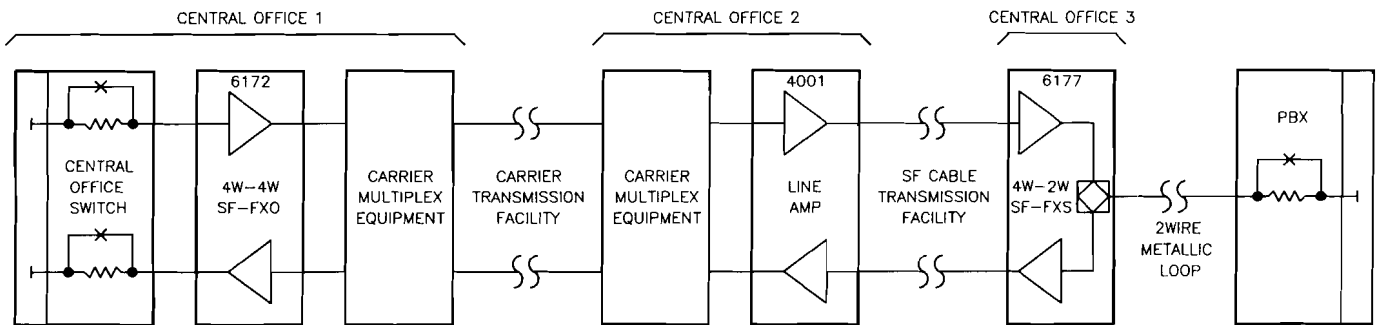

figure 2. Typical foreign-exchange (FX) application of 6177 module
**2.01** The 6177 4Wire-to-2Wire SF-to-FXS Intermediate Repeater module is designed primarily to interface a 4wire transmission facility that uses SF signaling with a 2wire metallic link that uses FXS signaling. This link can be either a station loop or a PBX trunk (loop-start or ground-start) that terminates at the station end of an FX or OPS circuit. The 6177 module combines the functions of a 4wire line amplifier, an SF transceiver, an SF-to-FXS signaling converter, and a 4wire-to-2wire hybrid terminating set. No external interface circuitry is required because the 6177 is a complete SF signaling and terminating circuit, less power and ringing, on a single Type 10 card. Thus, the module provides not only bidirectional signaling conversion but also active transmission interface (impedance matching, level control, amplitude equalization, and 4wire-to-2wire conversion) between the SF facility and the FXS link. Figures 2 and 3 show typical applications.